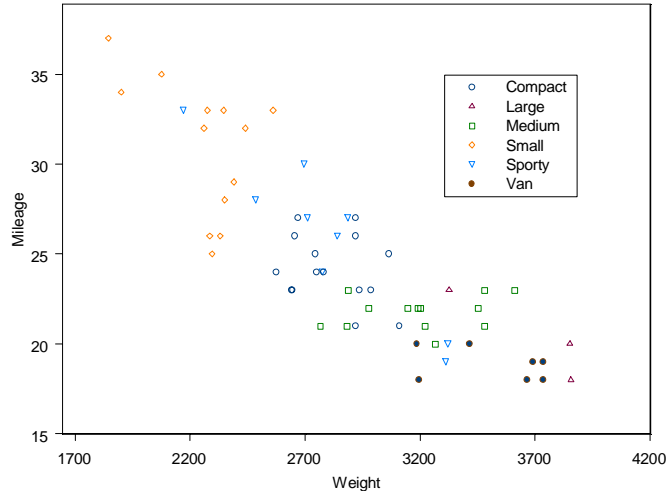

Figure 3.29: Color plot of *Mileage* by *Weight* with color and symbol style varying by *Type* for the *fuel.frame* data.
3. Click **OK**. (You can change the defaults for symbol styles and colors; see Chapter 11, Customizing Your S-PLUS Session, for more information.) Figure 3.29 displays the resulting color and symbol plot.